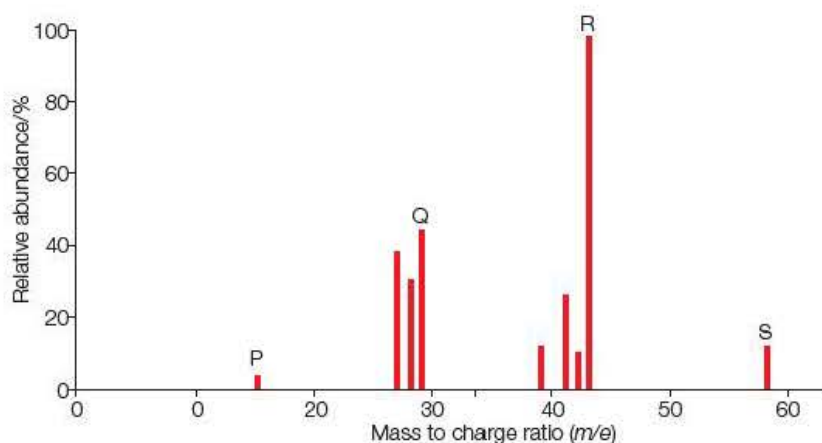

Figure 17.5 ◀
- 1 a) i) Which peak in the mass spectrum of butane in Figure 17.5 corresponds to the parent ion?